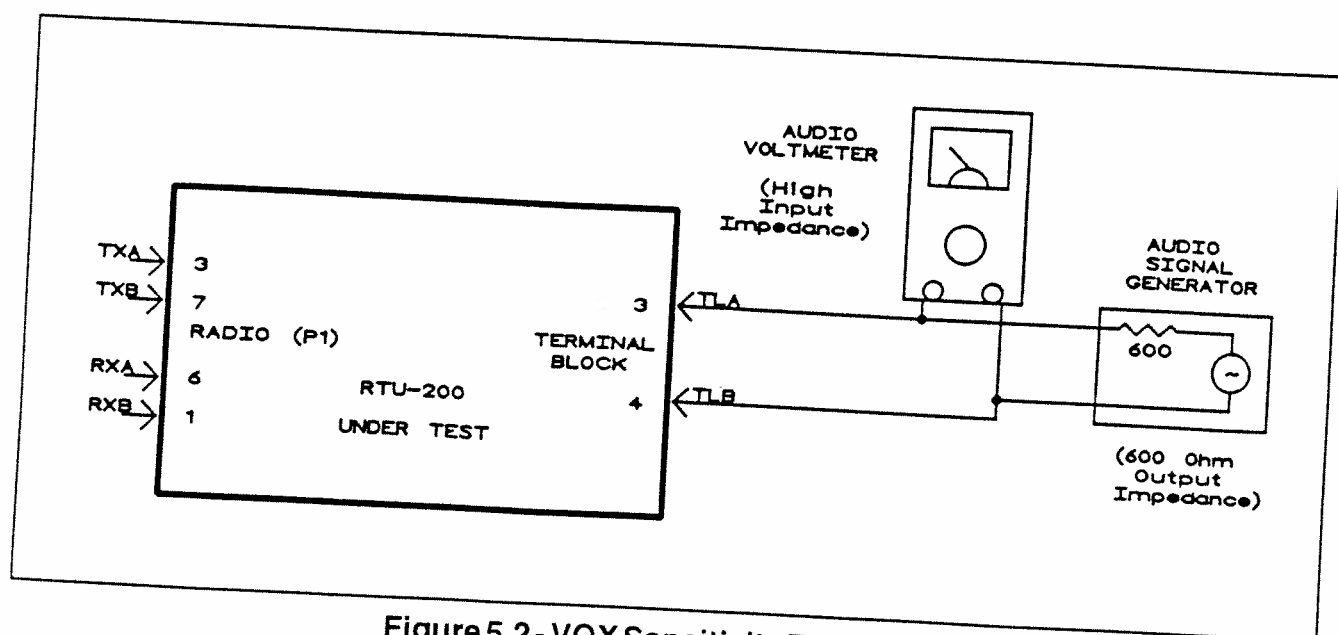

Figure 5.2 - VOX Sensitivity Test Set-Up
1. Disconnect the RTU-200 from all other equipment and connect the test equipment as shown in figure 5.2.